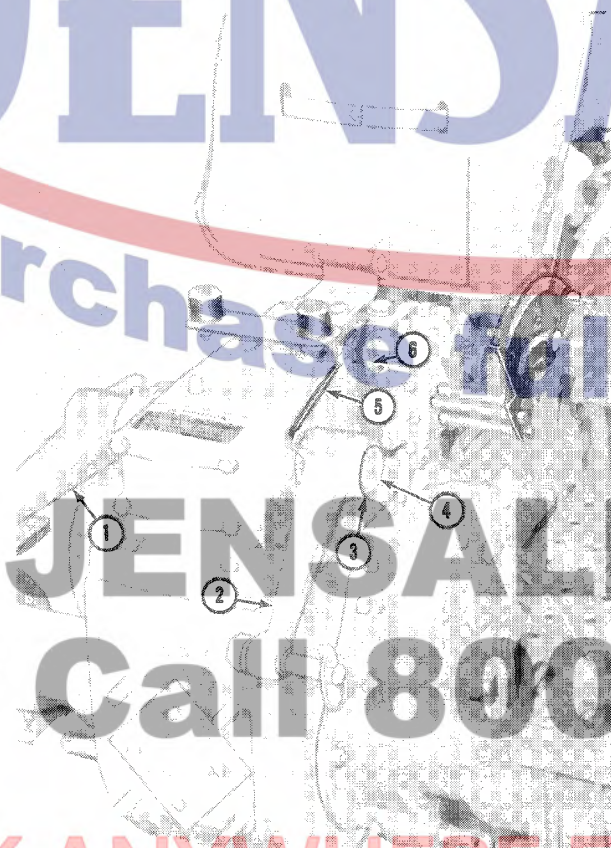

Figure 5
NOTE: The rockshaft (4), Figure 5, is held in position by the left lift arm snap ring. Follow the procedure below to avoid repairs due to allowing the rockshaft to slide out of position to the right.